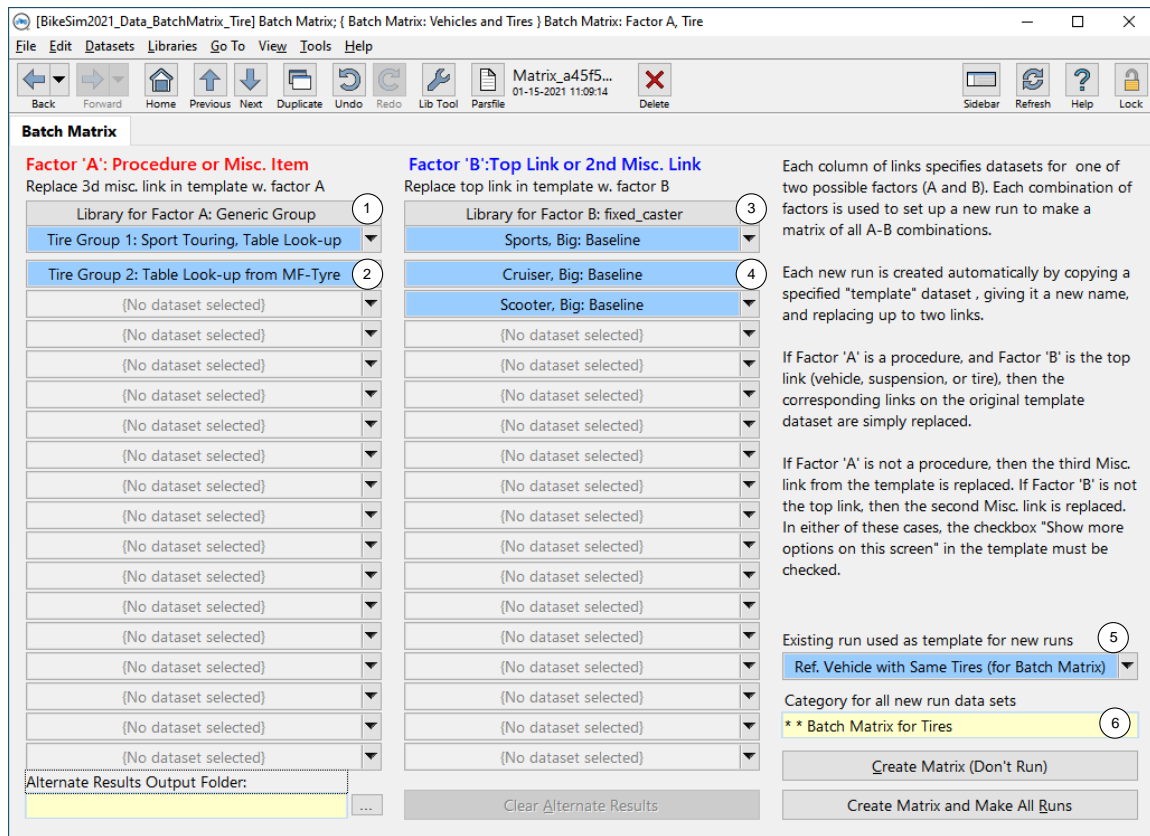
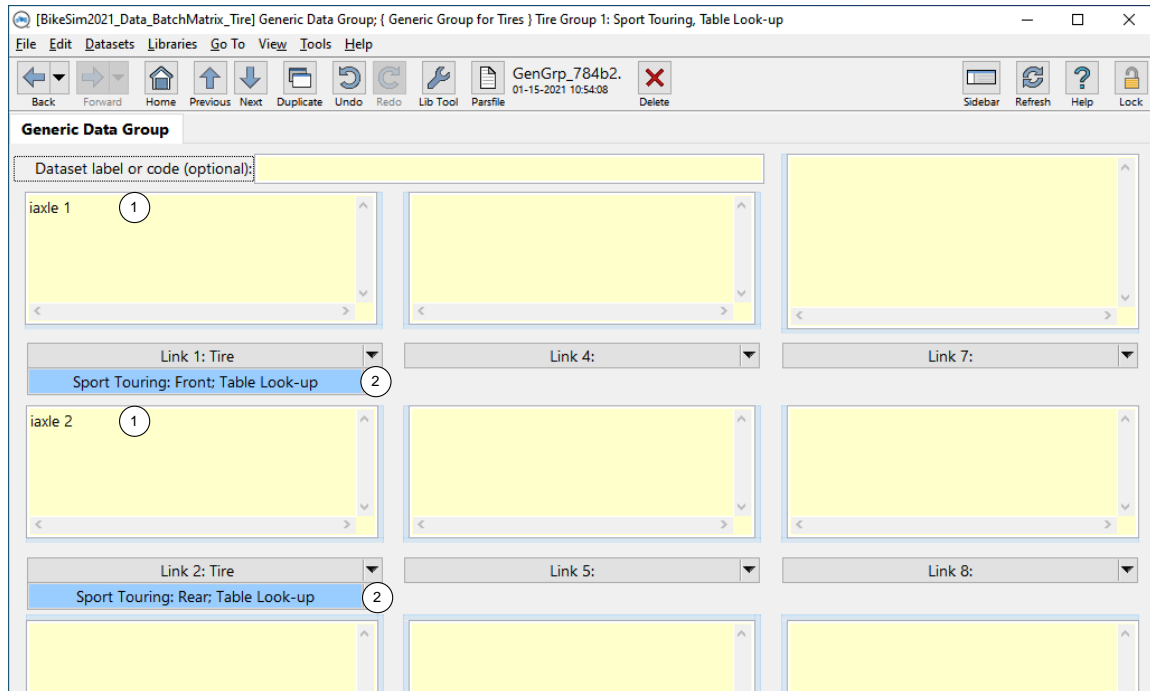

Figure 4. Batch Matrix for vehicles and sets of tires.
Figure 5. Generic Data Group with two tires for a BikeSim Vehicle.
Figure 4 shows a Batch Matrix set up with three BikeSim vehicles ((4)) and two sets of tires ((2)), yielding $2 \times 3 = 6$ new **Run Control** datasets. The **Run Control** dataset *template* and Category used to group the new runs are specified in (5) and (6), respectively.
Figure 5 shows the setup required to specify new tires ((2)) for the BikeSim vehicles linked to the Batch Matrix (Figure 4). The Misc. yellow fields ((1)) are used to specify the `iaxle` parameters. Note that these parameters must precede the datasets to ensure the data gets applied to that position on the vehicle.